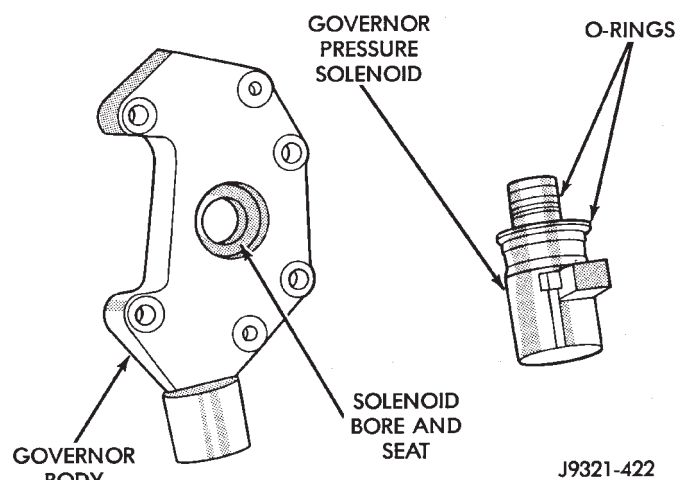

Fig. 94 Governor Pressure Solenoid Removal
- (6) Remove governor pressure solenoid by pulling it straight out of bore in governor body (Fig. 94). Remove and discard solenoid O-rings if worn, cut, or torn.